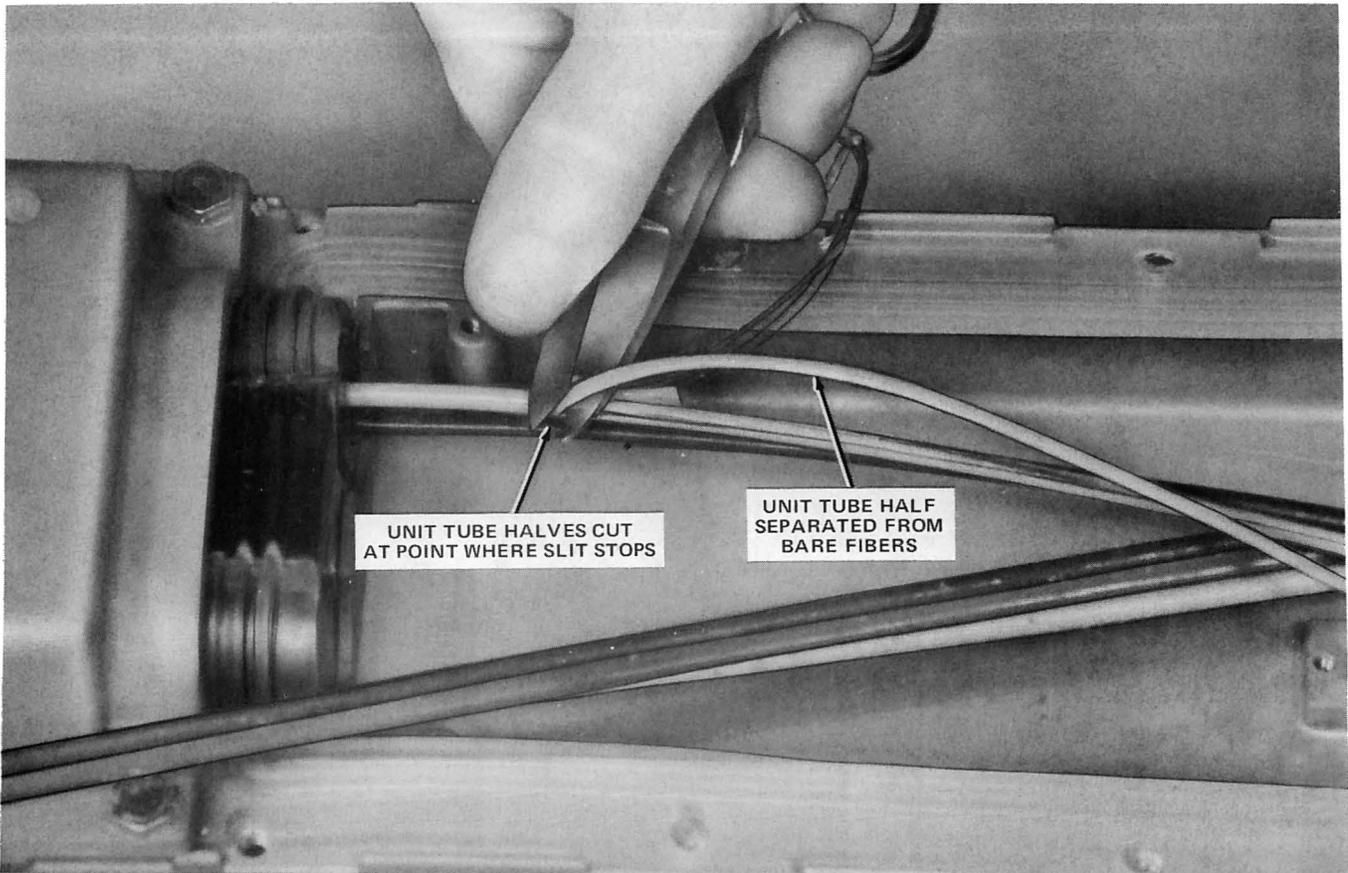

Fig. 43—Removing Unit Tubes
6.05 Working with one unit tube at a time, separate the split tube, starting at the end of the unit, and peel the tube halves toward the closure base to the point where the slit stops. Remove **all** bare fibers from the unit tube (count fibers to make sure all are removed) and cut the tube halves, as shown in Fig. 43.